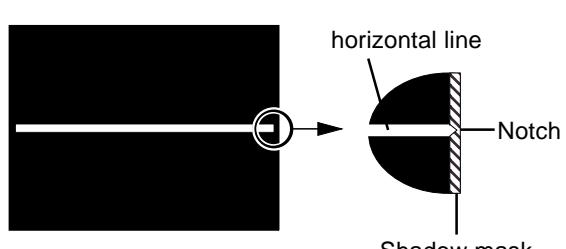

Fig. 2-3
4. Press the VOL. UP/DOWN button on the remote control until the horizontal line becomes fit to the notch of the shadow mask. (**Refer to Fig. 2-3**)